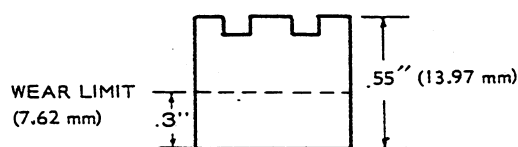

FIGURE 46. BRUSH WEAR LIMIT
8. **Inspection of Brushes.** Replace brushes when they are worn less than .3-inch (7.62 mm) as shown in Figure 46. See that all brushes move freely in their holders.